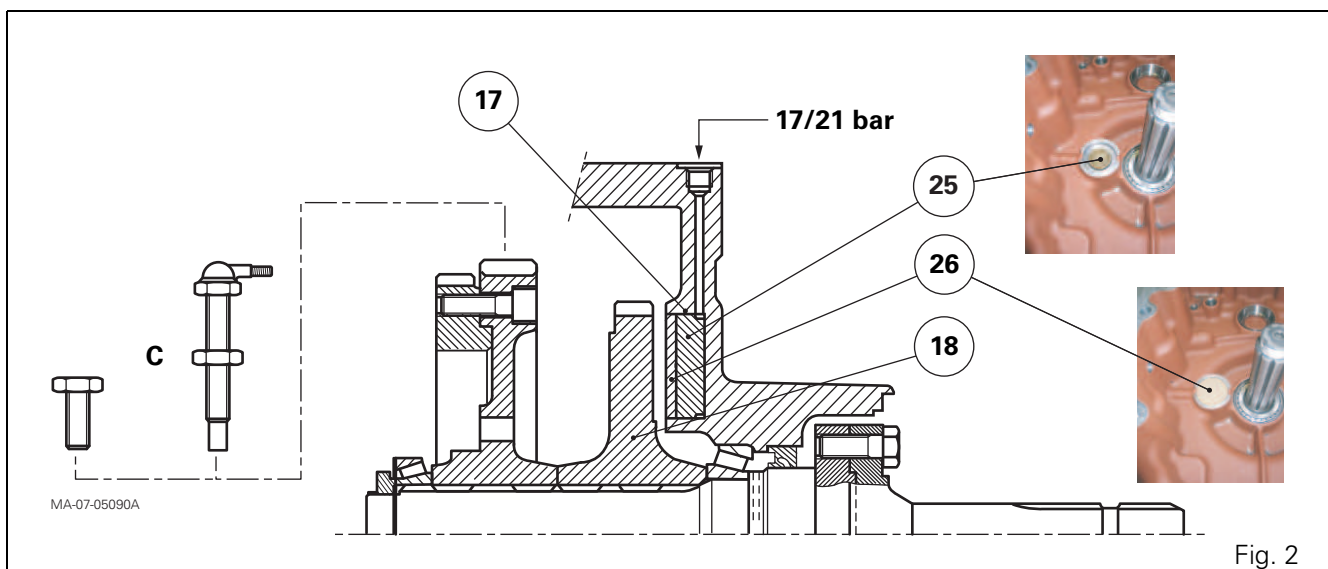

Fig. 2
Sensor C (if fitted) (Fig. 2) located to the right of the PTO housing informs the tractor's electronic system of the speed of the output shaft via the 540 rpm driven gear. A threaded plug C (Fig. 2) blocks the sensor port if the sensor is not fitted.
The rear PTO brake is a cylindrical piston (25) fitted with an "O" ring (17). This piston is housed in a bore of the rear PTO housing (Fig. 2). When the PTO clutch supply is interrupted, the 17 or 21 bar pressure is applied to the brake. The piston then travels towards the machined face of the 1000 rpm driven gear (18) and compresses this gear via a friction washer (26) in order to gradually slow down the rotation of the mechanical sections of the PTO until they are completely immobilised.